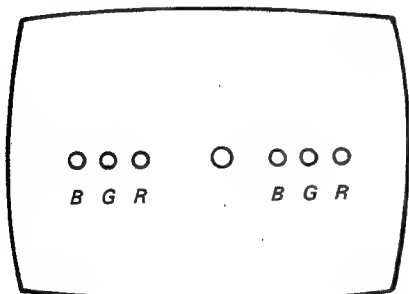

Fig. 3-11.
1. Adjust the TILT control (VR604) to obtain the best horizontal convergence at both sides of screen. If correct convergence cannot be obtained, turn the TILT control to display the dot pattern as shown in Fig. 3-11 and Fig. 3-12.
- a. If misconvergence is as shown in Fig. 3-11, reduce the capacitance value of C611. Try the next smaller commercial value. It will probably be necessary to reset the horizontal static convergence control after C611 has been changed. Readjust the tilt control, if necessary.